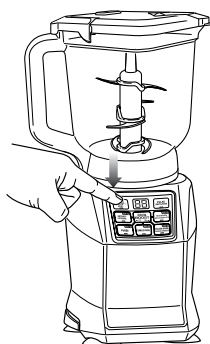

Fig. 6
- 11 Select the speed or Auto-iQ program that best suits your needs. The Auto-iQ program will stop the appliance automatically at the end of the program. (Fig. 6)